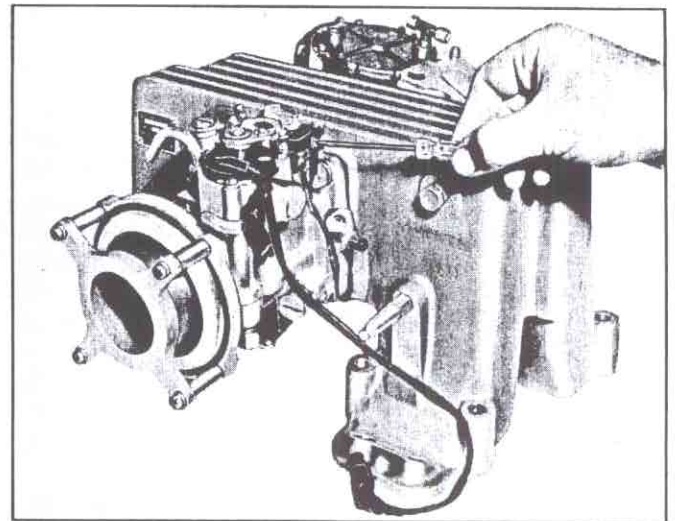

Fig. 123—Disconnecting Starting Cut-Off Switch
1. Disconnect lead from solenoid at starting cut-off switch (fig. 123).